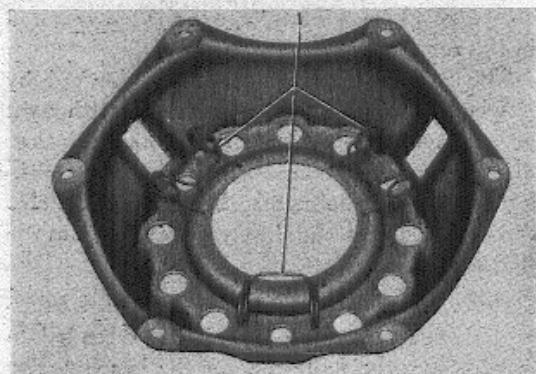

Fig. 14. Fitting the springs.
5. Ensure that the three springs (1, fig. 14) for the release levers are in position and place the clutch casing over the six pressure springs in the position previously marked. See fig. 10.